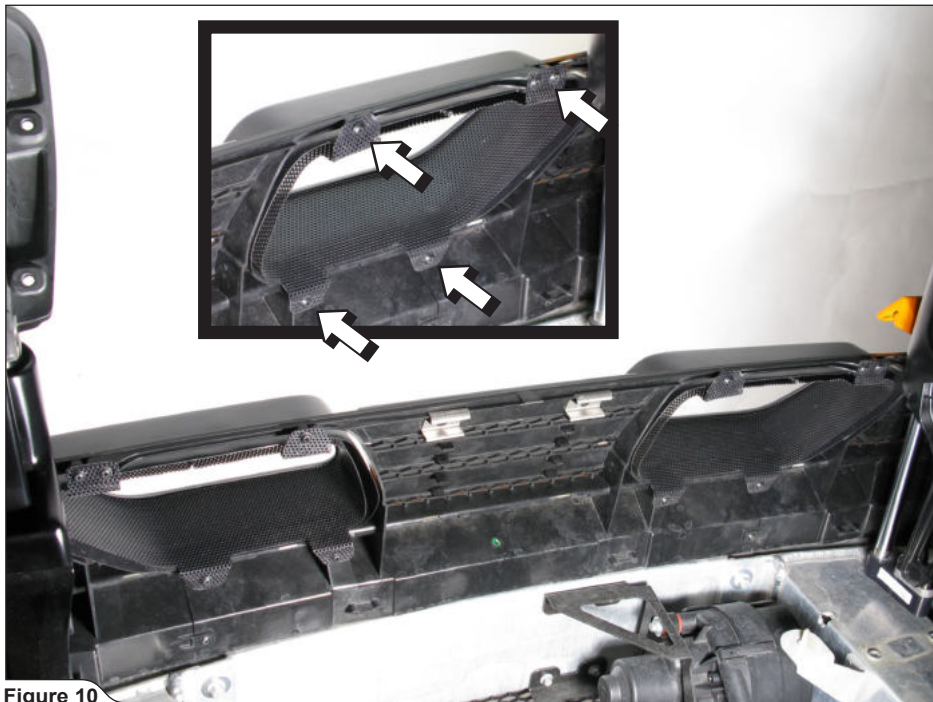

Figure 10
9. Unscrew the marked bolts on both tail pipes and remove them off the vehicle (**Figure 10**).